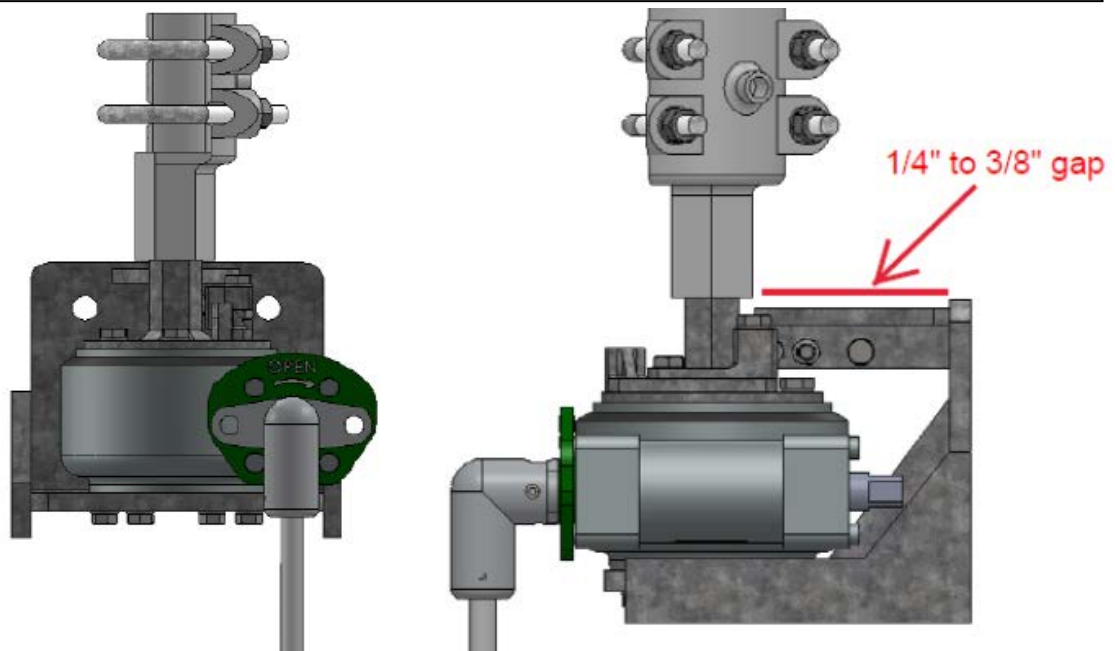

Figure 19: Type SEGO (Safety Enhanced Gear Operator)
- 2.2.1. The weight of the vertical operating pipe should be supported by pipe collar (**Figure 19**) by maintaining the 1/4"-3/8" gap.
- 2.2.2. When the switch is properly adjusted the operator handle should hang freely in both the open and closed positions to permit the use of the customer supplied padlock. Refer to **Figure 19**.